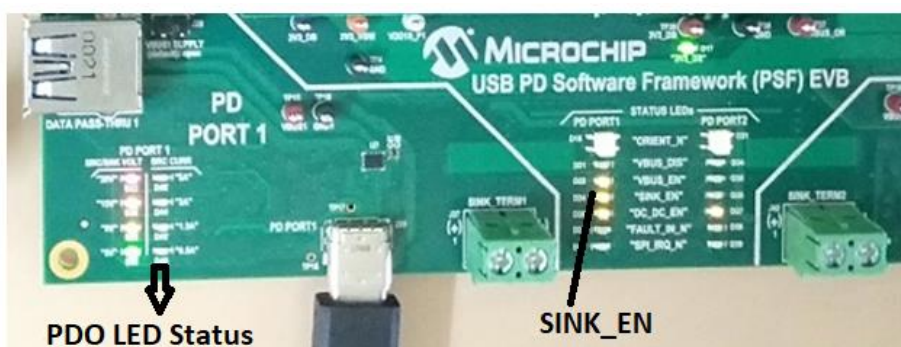

Figure 7.2 Status LEDs after negotiation
3. Once an explicit power contract negotiation is in place, the PSF gets enough power for charging. PDO status LEDs will turn ON indicating the negotiated voltage as shown in Figure 7.2.